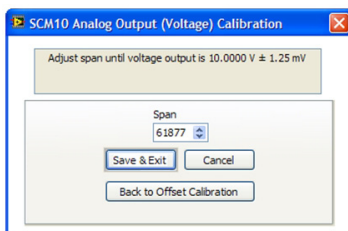

Figure 6.11
3. Adjust the value of the Offset DAC until the reading on the DMM is 0V ±1.25mV. Click “Continue to Span Calibration”. This displays a screen similar to Figure 6.11.